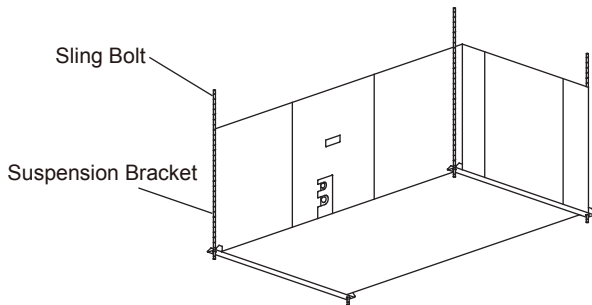

Fig.5.17
1. Suspend the unit as **Fig 5.17** indicates.